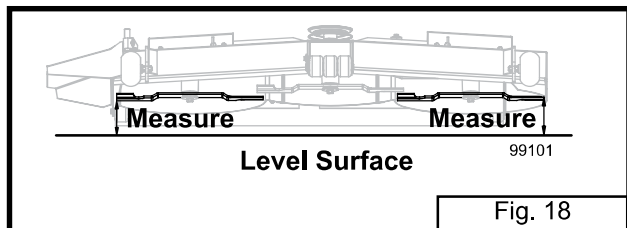

Fig. 18
(Refer to Fig. 18 & 19)
3. Position left blade in the side to side position and measure from the outside blade tip to the level surface (refer to Fig. 18).